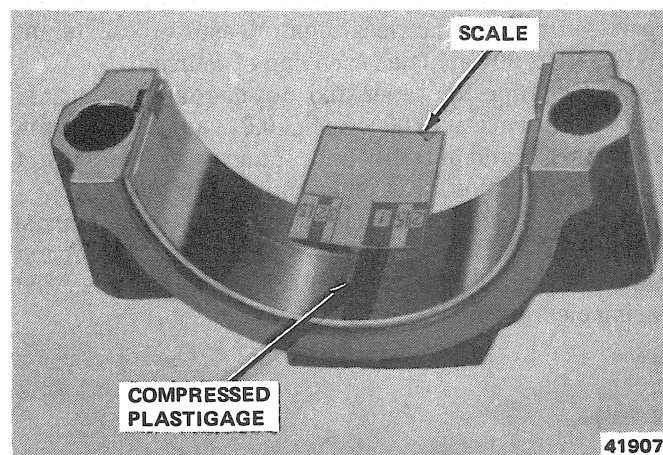

Fig. 1B-81 Rod Bearing Clearance Measurement with Plastigage
- (1) Wipe journal clean.
- (2) Lubricate upper insert and install in rod.
- (3) Install lower insert in bearing cap. Lower insert must be dry. Place strip of Plastigage across full width of lower insert at center of bearing cap.
(4) Attach bearing cap to connecting rod and tighten nuts with 28 foot-pounds (38 N•m) torque.
(5) Remove bearing cap and determine amount of clearance by measuring width of compressed Plastigage with scale on Plastigage envelope (fig. 1B-81). Correct clearance is 0.001 to 0.0025 inch (0.025 to 0.064 mm).